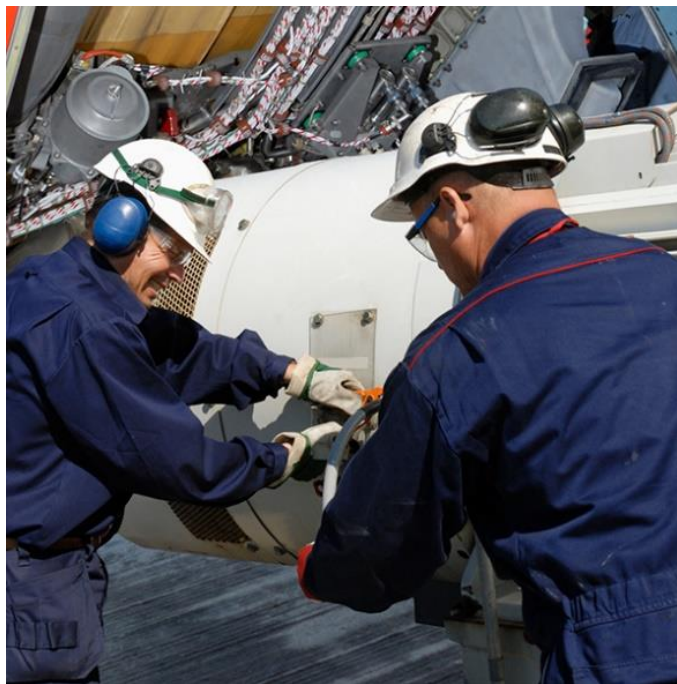

Figure 1 – Aviation powerplant mechanics.
c) Figure 1 below shows aviation powerplant mechanics working on an engine. Identify **FOUR** suitable safety signs which can be used in this scenario.